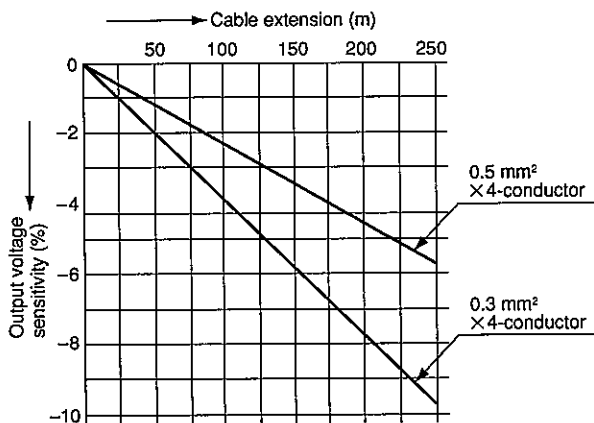

Fig.7 Output sensitivity change due to cable extension
7.4 Where the cable (10m long as standard) is extended, correct the reading, using the following equation. (See Fig.7.)